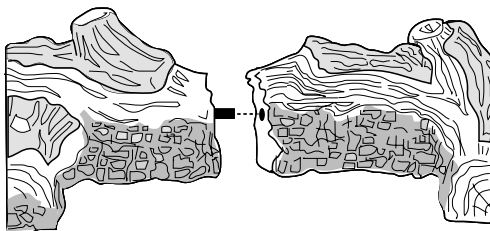

Figure 28.
1. Assemble the Left and Right Rear Logs as shown in fig 28. First engage the halves together, and then engage the pins on the burner skirt with the adjacent holes in the underside of the logs.